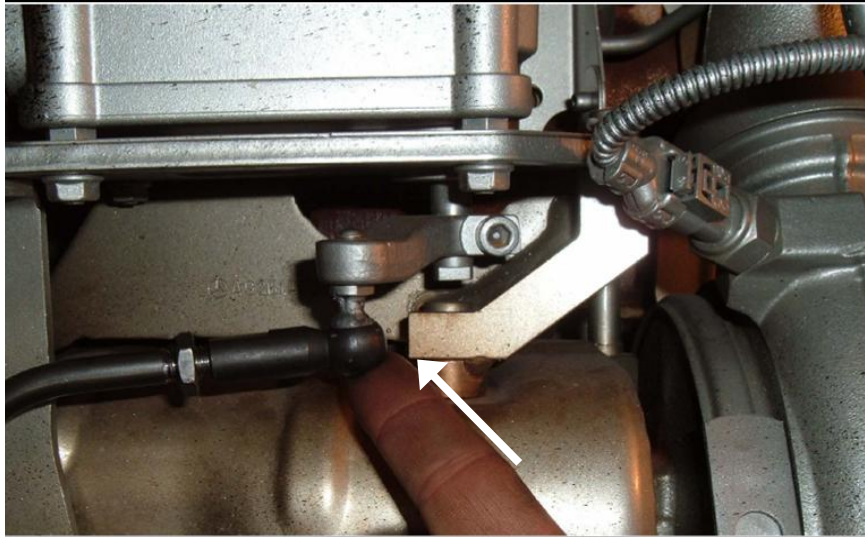

Figure 4 – Smart Remote Actuator Lever Adjustment
7. At the SRA, loosen the adjustment nut and make sure the ball joint socket fits on the actuator lever as shown in Figure 4.